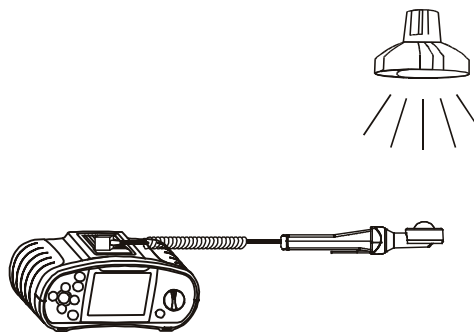

Fig. 5.51: Correct luxmeter probe positioning
Step 3 Turn on the luxmeter probe (ON/OFF key, green LED is lit). Position the luxmeter probe in such a way that the measured light falls in parallel onto the light sensor. Follow the connection diagram shown in figure 5.51 to perform illumination measurement. Use the **Help** function if necessary.